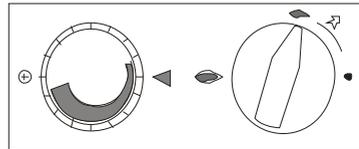

Figure 3- Pilot Burner Only
1. Whilst pushing the IGNITION KNOB in (see **Figure 2**), turn it anticlockwise to the pilot flame position as shown in **Figure 3**. During this process, the spark ignition will have operated and lit the pilot flame. On lighting the pilot flame continue to depress the ignition knob for a further 15 - 20 seconds then slowly release. The pilot flame should stay alight. If the flame goes out, repeat the procedure above to establish the pilot. Due to safety and the efficient way the fire works, it is not unusual for the pilot to stay alight only after the second or even third attempt.
6. To switch off the main burner turn the IGNITION KNOB to the 'Pilot burner only Position' as shown in **Figure 3**. The appliance may be left in this standby mode if desired.